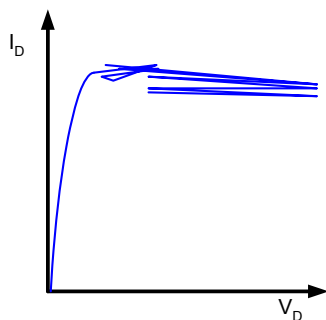
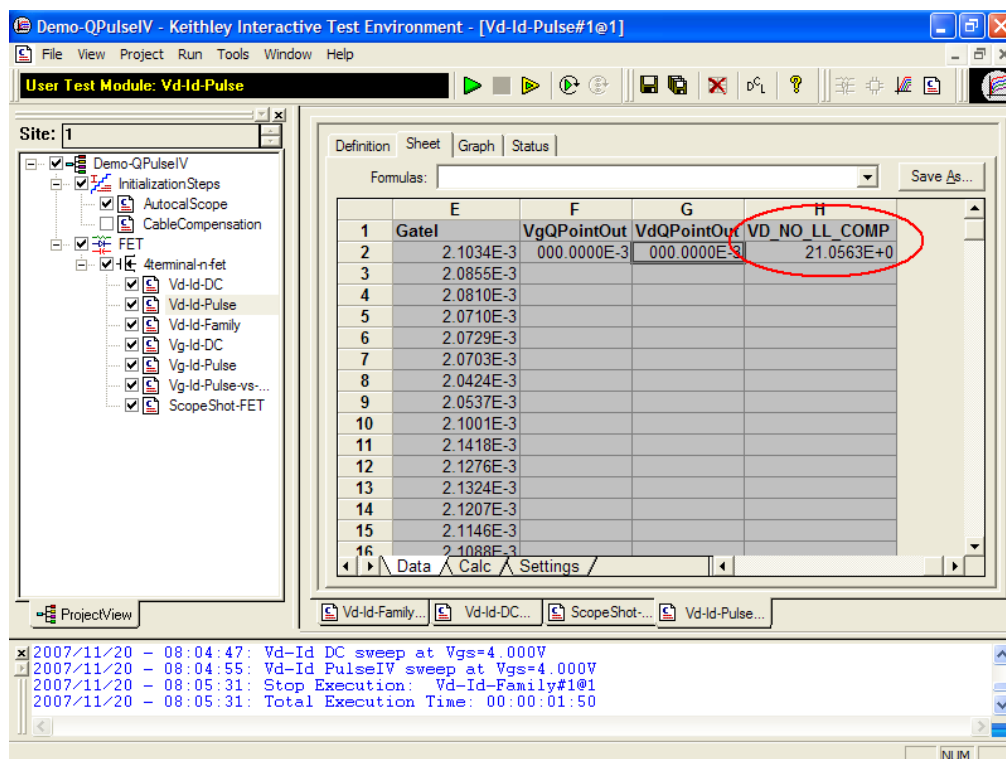

Figure 25. Example of Load Line Compensation zigzag effect.
Figure 26. Result of V_D calculation for Drain Load Line Compensation off.
On certain high gain DUTs, the Load Line Compensation algorithm interacts with the DUT behavior results in a “zigzag” V_D - I_D curve as shown in Figure 25. This is most likely when there is a high gain device and/or there is a fairly sharp transition from the linear to saturation portion of the V_D - I_D curve.
4. This equation is included in Vd-Id-Pulse test in QPulseIV-Complete in Formulator. This may provide a good starting point for the V_D , assuming that the curve began to zigzag at a point near the maximum I_D , as shown in Figure 25. The resulting value is in the right-most column of the Sheet (Figure 26).